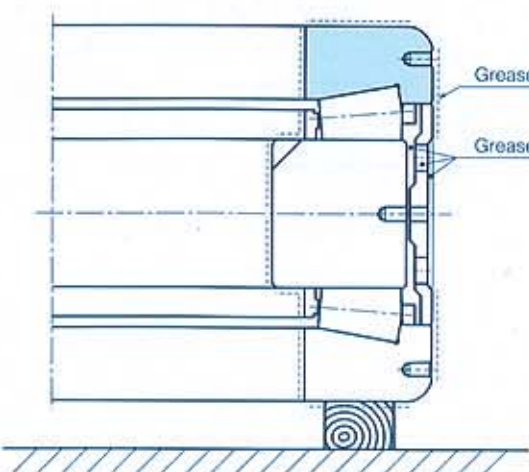

Fig. 3.43
- (6) Apply a thick coat of grease evenly over the entire periphery of the outer ring rib with matching symbol B. Apply a thin coat of grease over the other surfaces. Place the outer ring slowly onto the rollers. (Fig. 3.43) Carry out centering with care. Fill specified amount of grease through the oil hole of the outer ring spacer into the bearing. Apply the specified amount of grease in the oil hole and groove of the outer ring. Apply a thin coat of grease over the outside surface. Using a tool as shown in Fig. 2.1.6, assemble the bearing assembly into the chock.